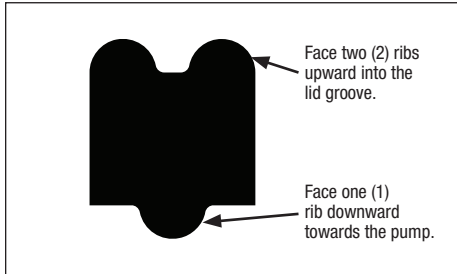

Figure 19. Cross Section of Lid Seal
3. Insert the seal into the lid groove with the two (2) ribs facing inwards into the lid groove and the one (1) rib facing outwards toward the pump. See *Figure 19* for a cross-section visual.